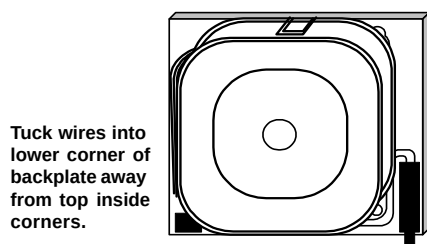

Figure 3
6. Move the Siren/speaker from its hanging position to its final mount by aligning its top and bottom slots with the 1/2" tabs on the top edge of the backplate and in the bottom center above the bolt threads. (See Figure 3) Press firmly.